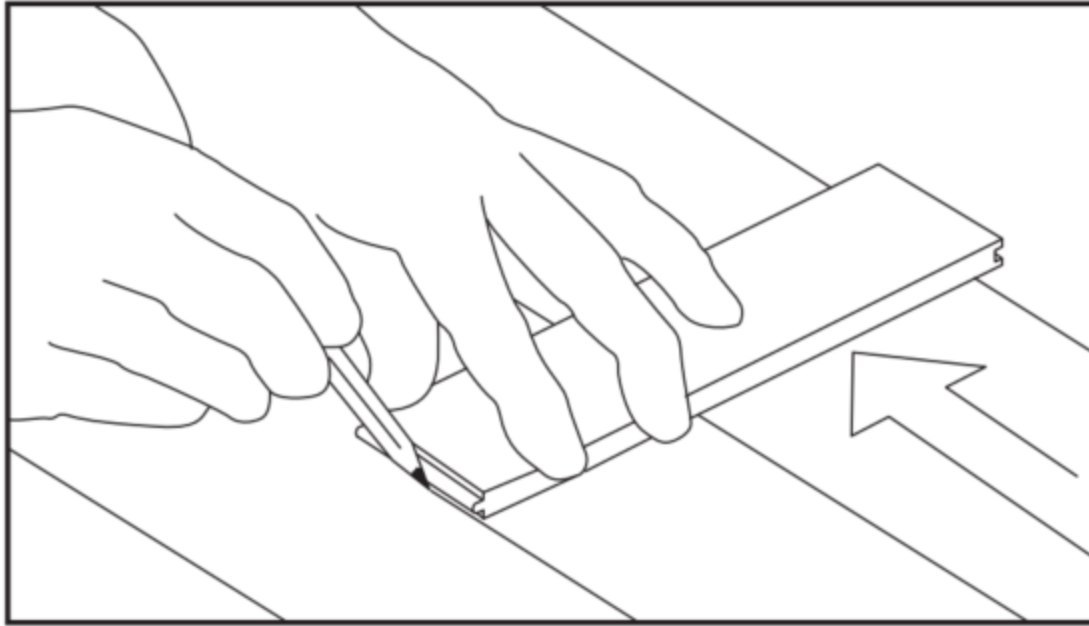

Figure 13
- If the wall is not straight, scribe the first board (Figure 13) as necessary to maintain alignment with the chalk line. Install a sacrificial board (with a straight edge) using the appropriate fasteners for the subfloor. If a board is used for the starter row make certain the groove faces the wall.
- Align the first row with the wall using wedges to maintain a 1/2" (13 mm) expansion in place and to stabilize the product. If the wall is not straight, scribe the first board (Figure 13) as necessary to maintain alignment with the chalk line.